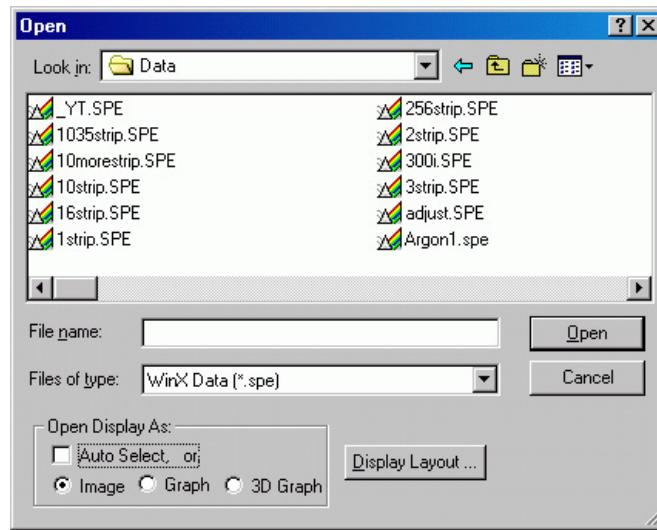

Figure 95. Open dialog
- From the File menu, select **Open**. The **Open** dialog (Figure 95) allows you to select the image to be opened. The **Look-In** field provides a browser function so you can easily find the directory where the images. By default, the data directory is a subdirectory of the directory where WinSpec/32 was installed. Subdirectory names and the filenames of all files of the specified type (the WinSpec/32 data type is \*.spe) in the current directory are listed in the box below the directory name. The WinSpec/32 data type is WinXData (\*.spe).